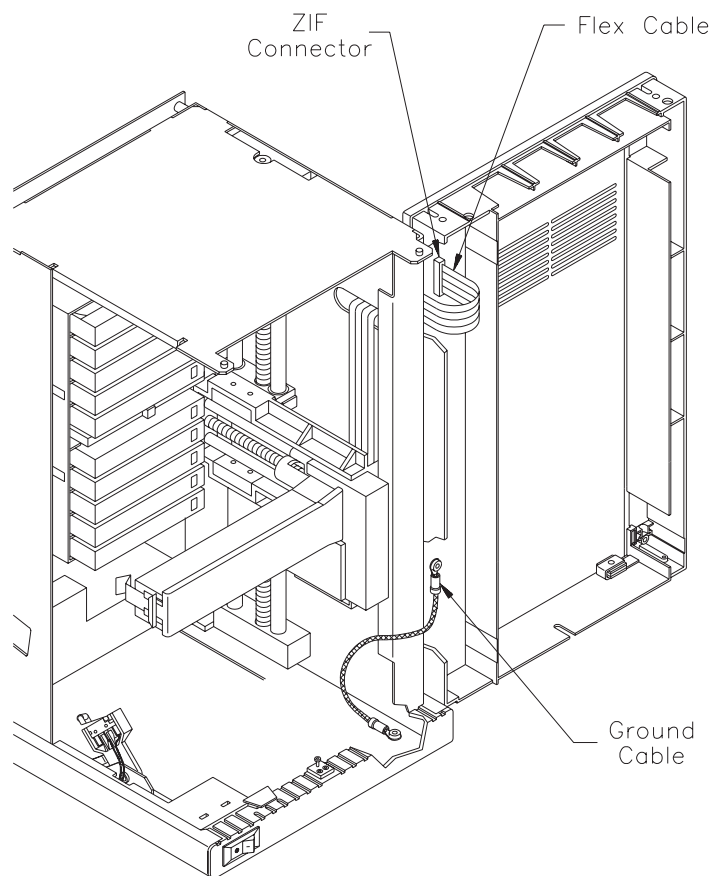

Figure 3-9 Detaching the cables from the upper bezel
The upper bezel is attached to the EXB-10i chassis by a flat flex cable; and in some units, the bezel is also attached to the EXB-10i by a ground cable at the bottom. (See Figure 3-9.) Be careful not to damage these cables when you slide the bezel off of the chassis. Do not let the bezel hang from the flat flex cable.
3. Disconnect the flex cable, which is attached to the ZIF connector on the top of the VDISPLAY card behind the LEDs, as shown in Figure 3-9. To do this, grasp the tab on the top and bottom of the connector with your thumb and forefinger. Gently pull on the connector clip until the cable slides away from the connector.
4. If the upper bezel is also attached to the base of the EXB-10i by a cable, detach this cable from the bezel. To do this, use a T-10 TORX driver bit to remove the screw that holds the cable to the bezel, as shown in Figure 3-9.
1. Connect the flex cable to the VDISPLAY card, located behind the LEDs on the upper bezel (shown in Figure 3-9). To do this, push the cable into the connector until it is seated squarely against the back of the connector. Slide the connector's clip into place, ensuring that both sides of the clip are squarely locked and fully seated.
2. If the EXB-10i has a cable attached to the base, you must connect this ground cable to the upper bezel. To do this, position the cable as shown in Figure 3-9 and replace the screw. Using a T-10 TORX driver bit, tighten the screw to 12 inch-pounds (13.8 kg-cm) of torque.